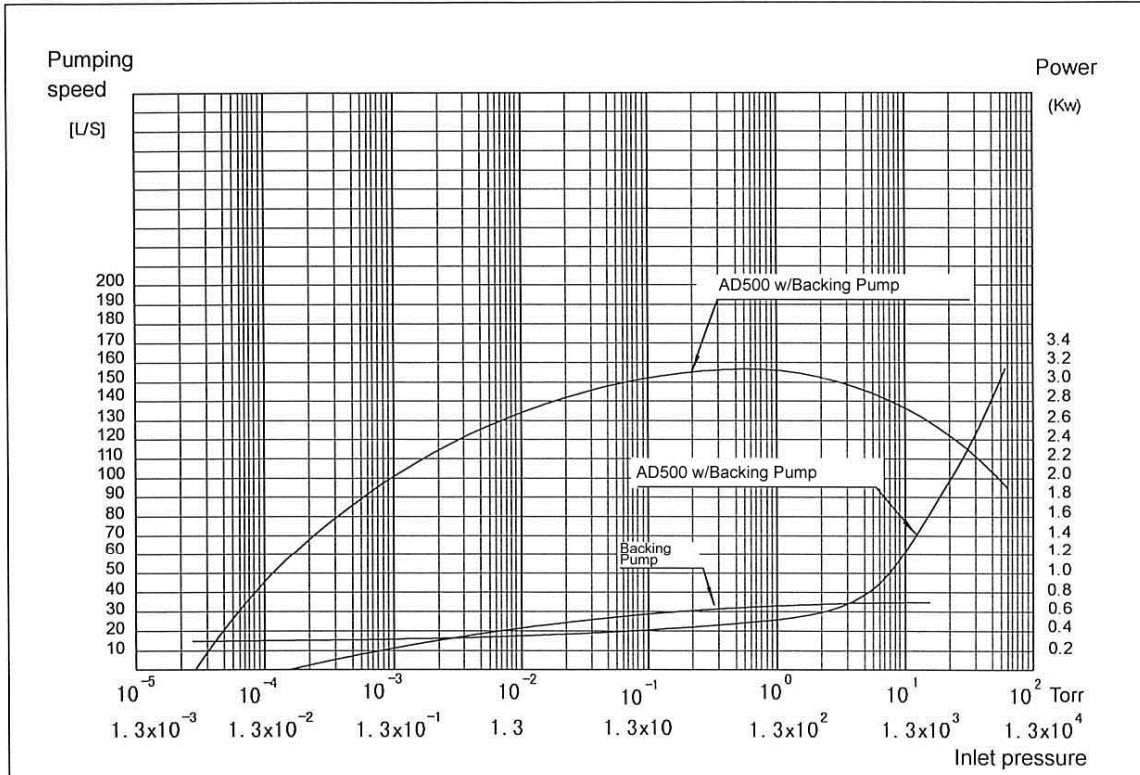

Fig. 3 Curve of pumping speed and power consumption versus inlet pressure for AD500/ High-Vac backing pump
- Figure 3: Curve of pumping speed and power consumption versus inlet pressure for AD500.